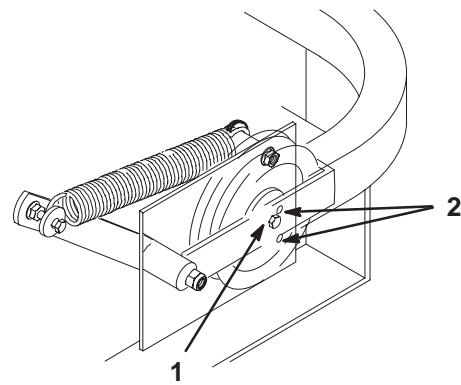

Figure 62
6. Check belt tension. The center bolt of spring loaded idler must be between the two alignment holes in left support plate (Fig 62).
Check position of center bolt in a High Height of Cut. The center bolt must be at or above the lower adjustment hole (Fig 62).
8. Check belt tension again. The center bolt of spring loaded idler must be between the two alignment holes in left support plate (Fig 62). Adjust, if necessary, and tighten all hardware securely.